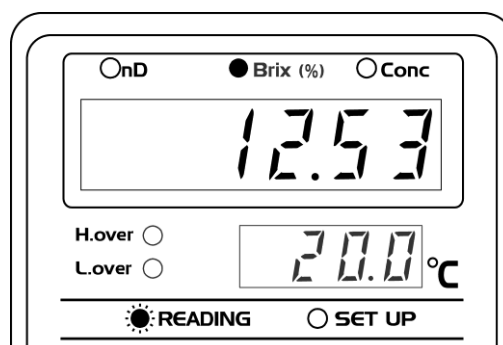

Fig. 10-3
- Press **START/STOP** to resume measurement. The **READING** light will blink, and measurements will be displayed as Brix (%) values (Fig. 10-3).